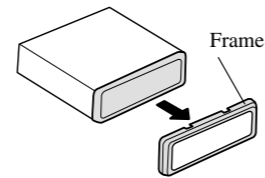
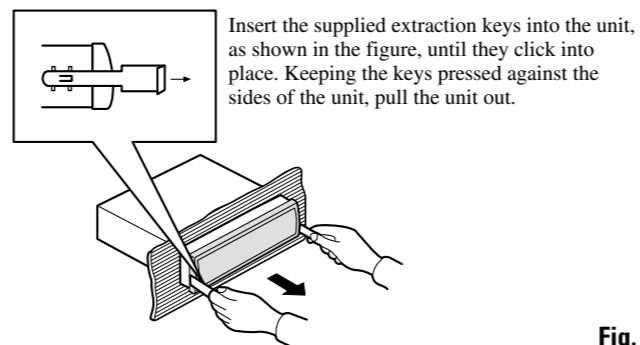

Fig. 10
Fig. 11
**Removing the Unit (Fig. 10) (Fig. 11)**